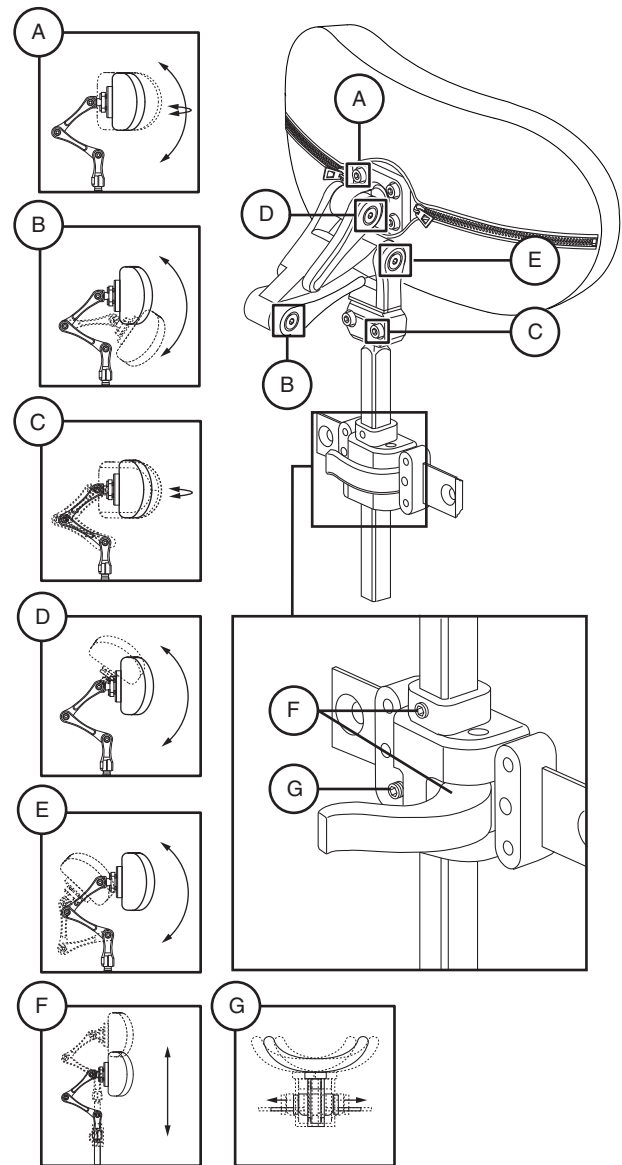

Figure 26. Headrest Adjustment Components
1. Loosen the adjustment screws that correspond to the desired adjustments. **See figure 26.**